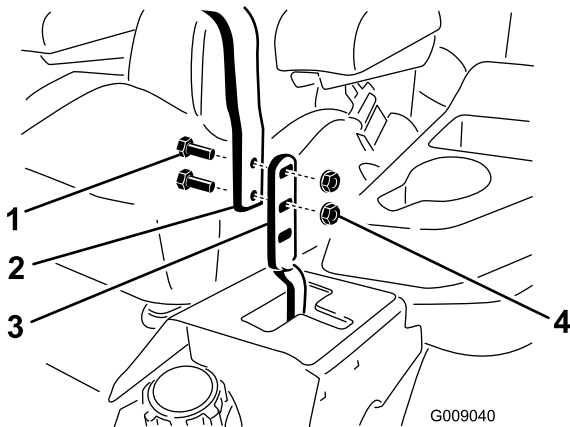

Figure 82
3. Loosen the bolts and flange nuts installed in the levers (Figure 82).